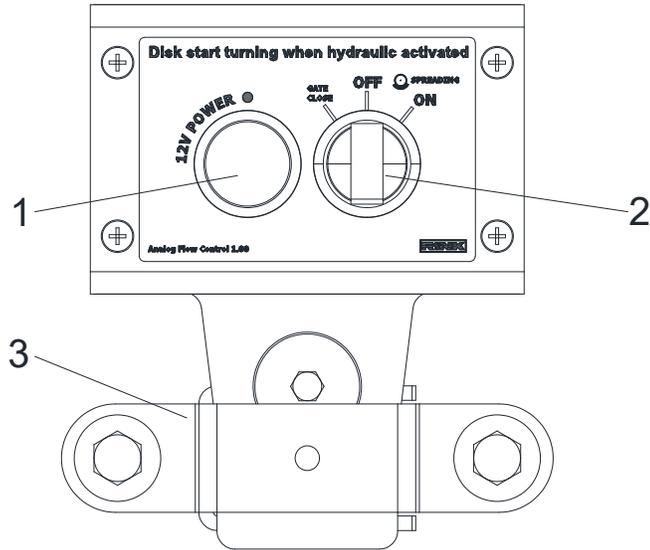

Fig. 30 Analog Flow Control operating device (evo)
- Analog Flow Control operating device (evo) (Fig. 30)
When the disc spreader is not hitched to a towing vehicle, the operating device is attached to a holder at the front of the hopper. A holder (Fig. 30/3) for the towing vehicle included in the scope of delivery enables the operating device to be attached to the towing vehicle. The disc spreader can then be operated from the towing vehicle.